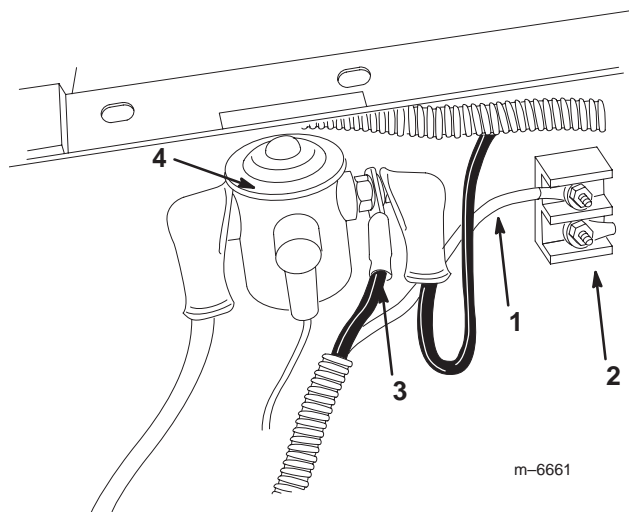

Figure 5
10. Connect the power wire to the solenoid under the driver's seat (Fig. 5).
11. Connect the end of the black ground wire to a ground stud on the ground terminal block (Fig. 5).